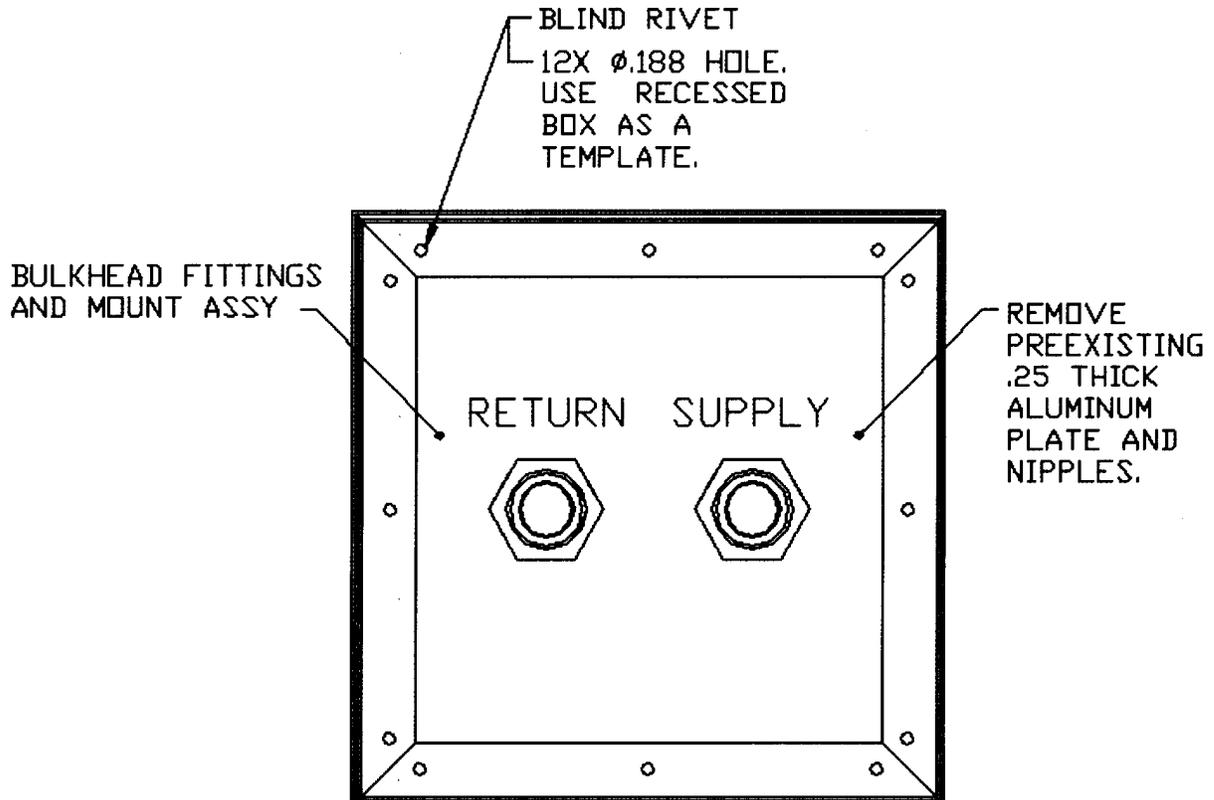

Figure 4. Bulkhead Fittings and Mount Assembly Installation
7. Secure bulkhead fittings and mount assembly with twelve blind rivets (See Figure 4). Seal all around the edges of the plate and blind rivets with sealing compound.